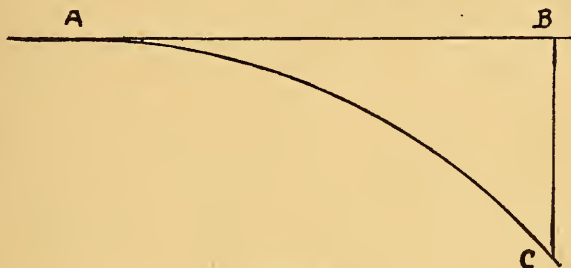

FIG. 33.
3. In Fig. 33, A B, represents a tangent, and starting at a point as A, it is required to reach the point C. From the starting point A, measure along the tangent to a point B, square across from C, then measure the